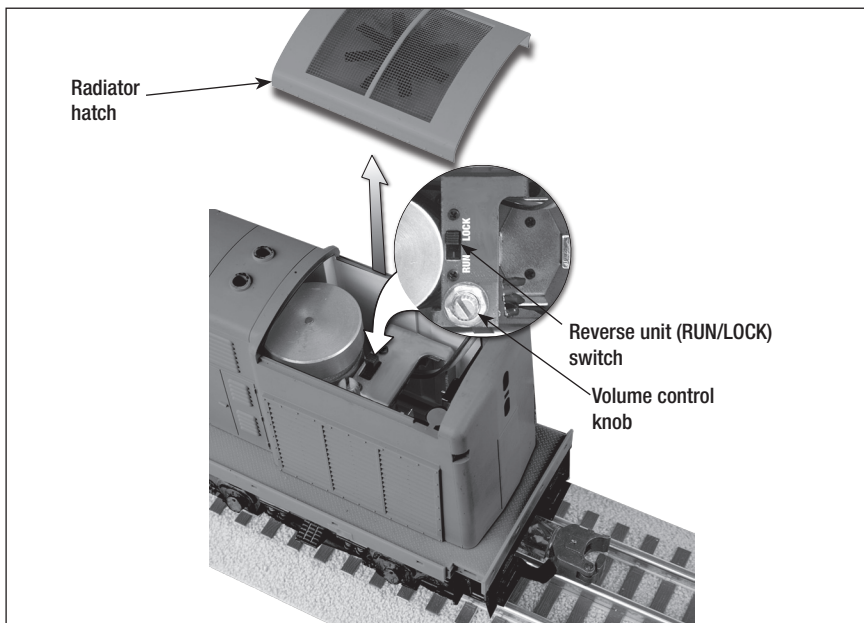

Figure 2. Switch location
To “lock” your locomotive into forward operation only, you can deactivate the reverse unit’s sequencing function. Follow the steps below and refer to Figure 2 for the location of the reverse unit switch.
2. Slide the reverse unit switch to the LOCK position. See Figure 2 for the location of this switch. At this point, the locomotive is “locked” into forward direction operation.
When you power up the locomotive on the track, you will hear the sounds of the locomotive at rest. As the locomotive moves, the RPM sounds automatically increase with the locomotive's speed. Use the volume control knob to adjust the volume. This control is concealed under the rooftop radiator hatch. See Figure 2 on page 6.